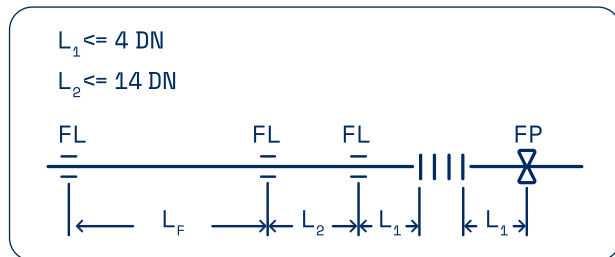
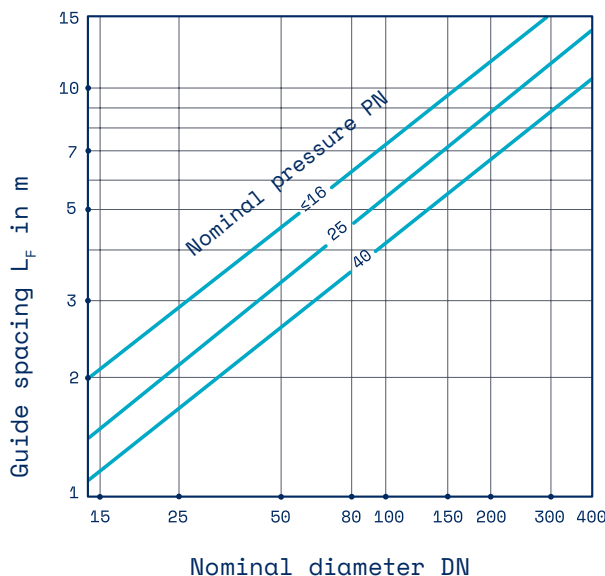

Fig. 3: Guide spacings of pipelines with axial expansion joints
Fig. 4: Recommended spacings for pipe guidance with axially compensated pipelines
- Pipes with axial expansion joints must be guided. Guides are required on both sides of the axial expansion joint; a fixed point fulfils the guiding function. (See Fig. 3 and Fig. 4 and related codes for maximum distances)